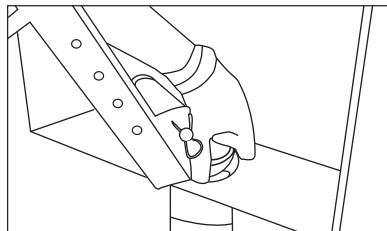

Fig 9
3. Lift front end and place conduit adaptor into conduit. Always make sure the conduit adaptor sits flush around the conduit you are pulling through (Fig 9).